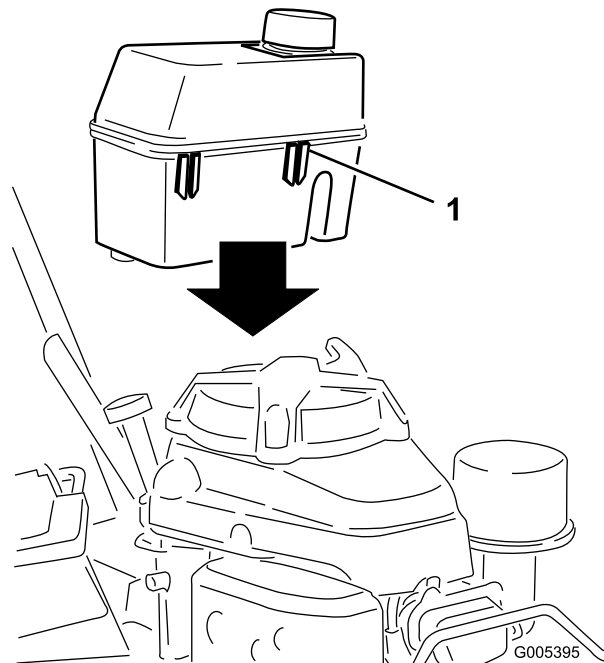

Figure 5
3. Slide the plastic clips on the front of the fuel tank onto the fuel tank mount (Figure 5).